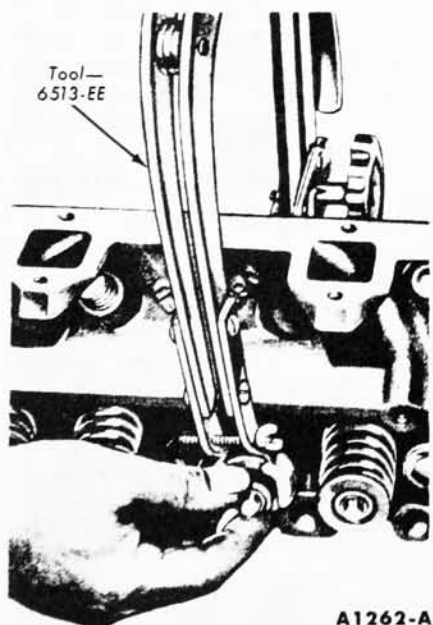

FIG. 36—Compressing Valve Spring
2. Compress the valve spring (Fig. 36). Remove the valve retainer locks and release the spring.
3. Compress the spring and install the retainer locks (Fig. 36).